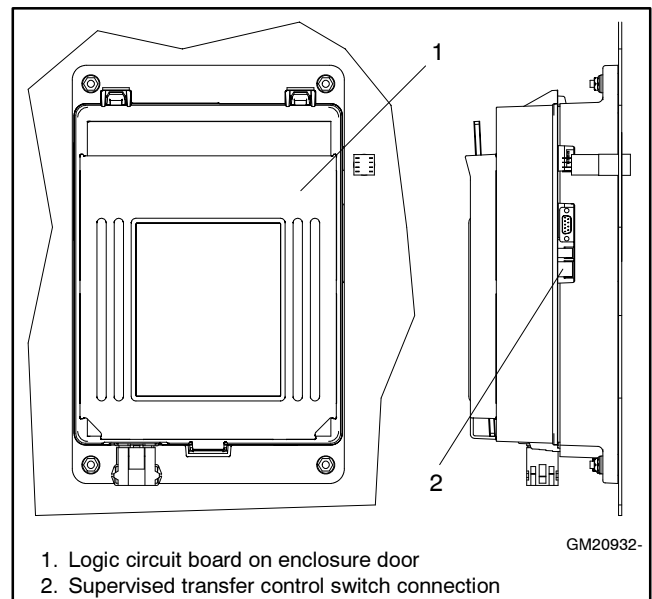

Figure 9 Connect Switch Assembly to Logic Circuit Board
- 3.3 Connect the terminal block to the mating connector on the transfer switch logic circuit board. See Figure 9.